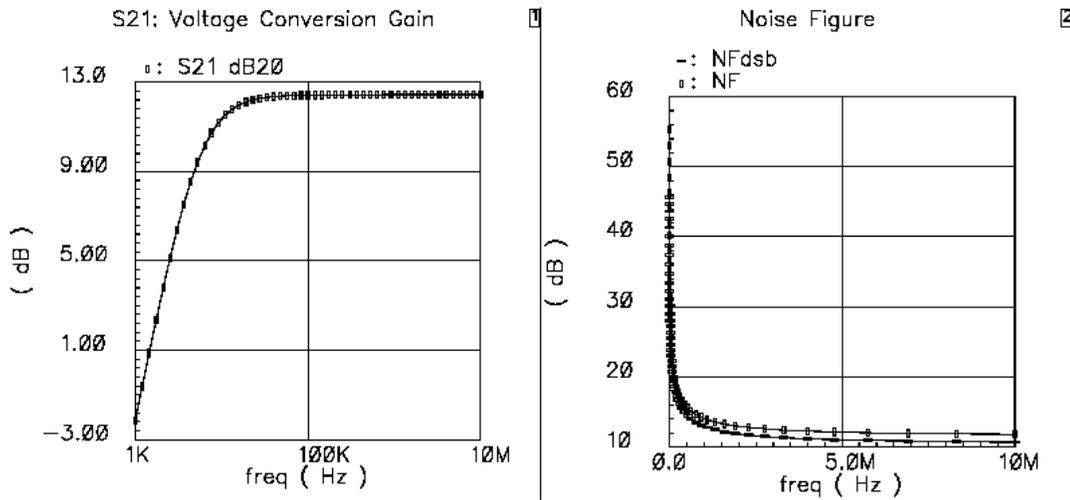
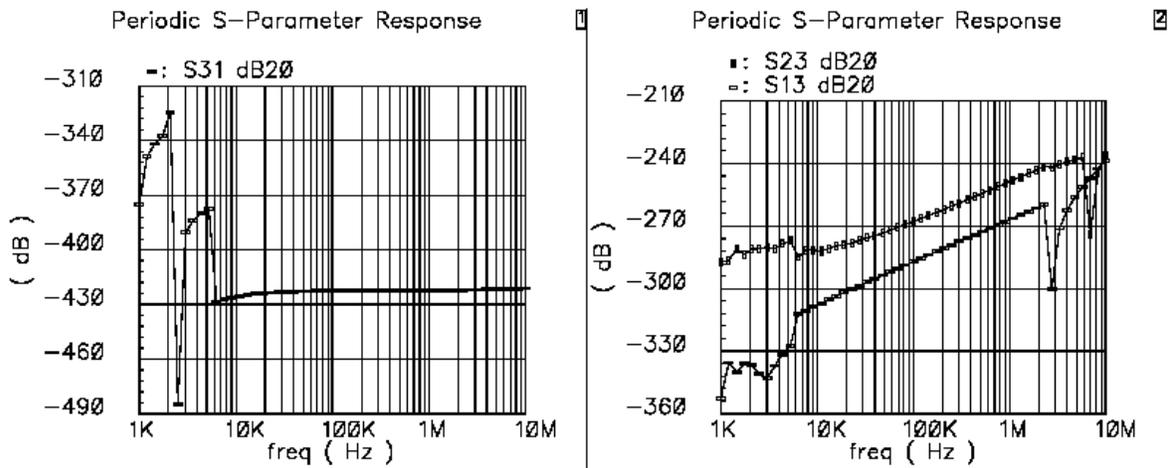

Fig 8: NF and S-Parameter Plots
Fig 9: S-Parameters Isolation Plots
- *You will see the plot as shown in Fig8 and Fig9*